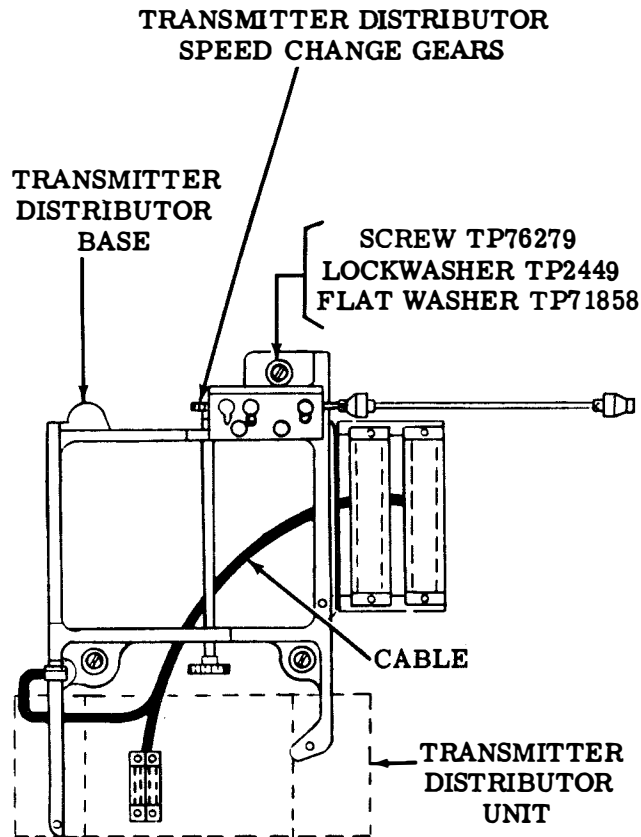

Figure 8-5. Typical Transmitter Distributor Unit and Base Arrangement
(1) Loosen the two gear guard mounting screws, slide the gear guard forward and lift it off the transmitter base.
(2) Install the speed change gear set for 60, 75 or 100 wpm on the TD base as follows: Install the pinion on the short shaft at the rear of the transmitter distributor base, install the large gear on the shaft that extends to the TD. Refer to Figure 8-5. The gearset to provide the desired speed of operation must be ordered as a separate item.
(3) Insert and tighten the three shoulder studs provided, into the TD base mounting holes in the front and rear cradle rails. Place a rubber bushing over each stud with the smaller diameter of the bushing upward. Position TD base and unit over the mounting studs so that the smaller diameter of the bushing extends into the mounting holes of the base. The base will then rest on the shoulders of the bushings. Route the ground strap forward and under the base, and then to the rear under the rear cradle rail. Refer to Figure 8-5. Cables should be routed along the right side of the base.
(b) Install the large gear on the long shaft that extends to the TD. Refer to Figure 8-5.